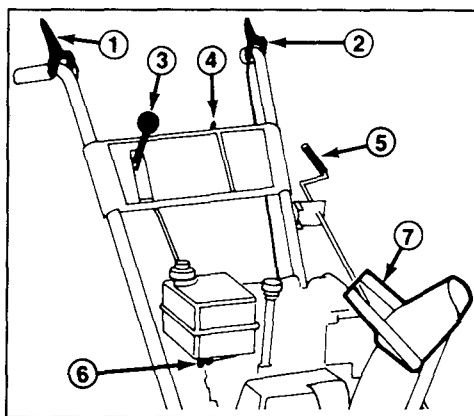
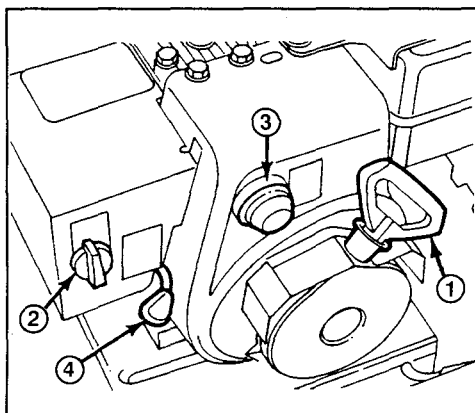
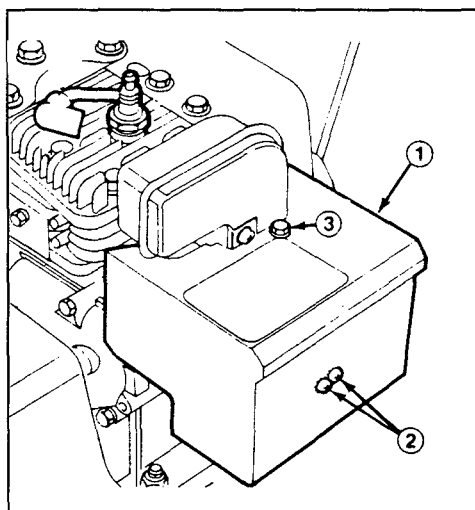

Figure 14
Figure 15
Figure 16
Auger Drive Control (Fig. 14)—Control has two positions: ENGAGE and DISENGAGE. To engage both auger and impeller, compress lever against right handgrip. To disengage, release lever.
Traction Control (Fig. 14)—To engage traction (wheel drive), lever must be compressed against left handgrip. To stop traction, release lever.
Speed Selector (Fig. 14)—The control has four positions: reverse, 1, 2 and 3. To change speeds, move gear shift to position desired. Lever will lock in notch at each speed selection. Use positions 1, 2 or 3 depending on snow conditions.
Ignition Switch (Fig. 14)—Switch has two positions: ON and OFF. Rotate key to ON position before starting engine with the recoil starter. To stop engine, rotate key to OFF.
Throttle (Fig. 15)—Moving the throttle upward increases engine speed.
Choke (Fig. 15)—Rotate choke to FULL choke position to start a cold engine. As engine warms up, move choke gradually to OFF.
Primer (Fig. 15)—Press primer to pump a small amount of gasoline into engine for improved cold weather starting.
Fuel Shut-Off Valve (Fig. 14)—Valve is located under fuel tank. Close valve to stop fuel flow from fuel tank and open valve to allow fuel to flow to the carburetor. Close valve when snowthrower is not in use.
Discharge Chute Control (Fig. 14)—Rotate discharge chute control clockwise to move discharge chute to the left and counterclockwise to move chute to the right.
Recoil Starter (Fig. 15)—Recoil starter is on back side of engine. Pull recoil starter to start engine.
Chute Deflector Handle (Fig. 14)—Deflector handle is on top of discharge chute, and it is used to control height of the snow stream.
Note: If engine is operated when temperature is +40° F (4° C) or higher, remove carburetor heater box (Fig. 16). However, the heater box must be reinstalled when temperature falls below +40° F (4° C). To remove heater box:
A. Remove (2) phillips screws and (1) hex head screw securing heater box in place (Fig. 16). Pull choke knob off choke rod (Fig. 15).
1. Move throttle (Fig. 15) to FAST.
2. Open fuel shut-off valve below fuel tank (Fig. 14).
3. Rotate choke (Fig. 15) to full choke position.
4. Rotate ignition key (Fig. 14) to ON.
6. Grasp recoil starter handle (Fig. 15) and pull it out slowly until positive engagement results; then pull vigorously to start the engine. Keep firm grip on starter handle and return the rope slowly.
7. After engine starts, immediately rotate choke (Fig. 15) to 3/4 position. As engine warms up, rotate choke to 1/2 position; then to OFF position. If engine falters, return choke to 1/2 position. When engine warms sufficiently, rotate choke to OFF position.
1. Release traction and auger drive controls (Fig. 14).
2. Move throttle (Fig. 15) to slow and rotate ignition key (Fig. 14) to OFF.